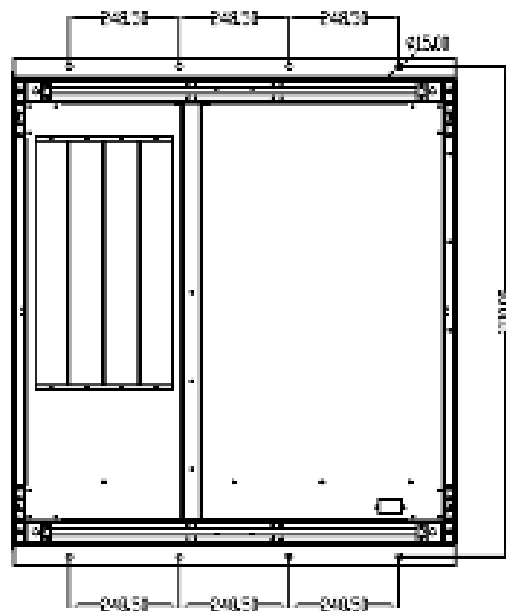

Figure 3-8 Dimensional drawings of seismic fixed device
- 2) Determine the installation position of the cabinet, and draw installation holes on the installation surface according to the seismic fixed device and equipment size diagram. The seismic fixed device and equipment dimension diagram is shown in Figure 3-8: